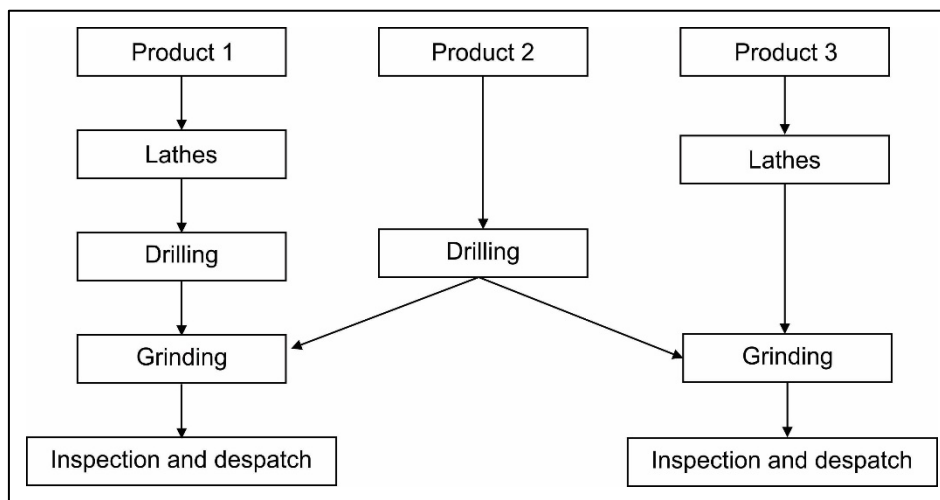

FIGURE 1.2
1.2 Identify the type of workshop layout in Figure 1.2.